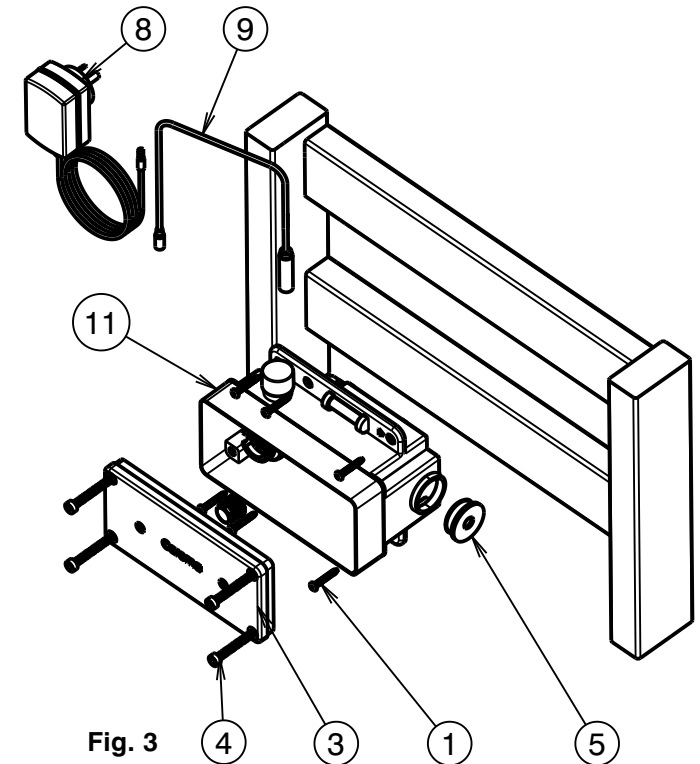

Fig. 3
- 1) Attach inwall body mounting box (11) to timber noggins as shown (Fig.3) using the 6 off supplied screws (1). Use the integrated level indicator (2) to ensure that the box is mounted **horizontally**.
- 2) Remove cover (3) by unscrewing the 4 off plastic socket screws (4) using the supplied spanner.